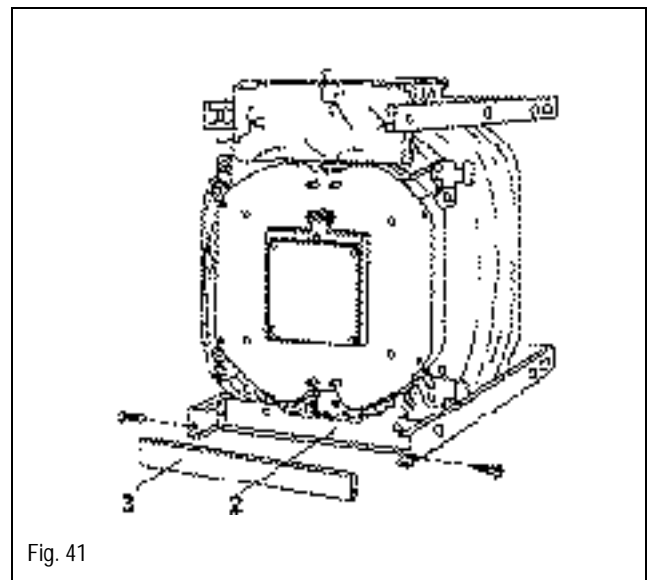

Fig. 41
- Install bottom front cover (3) between the longitudinal brackets and secure with screws. (Fig. 41).